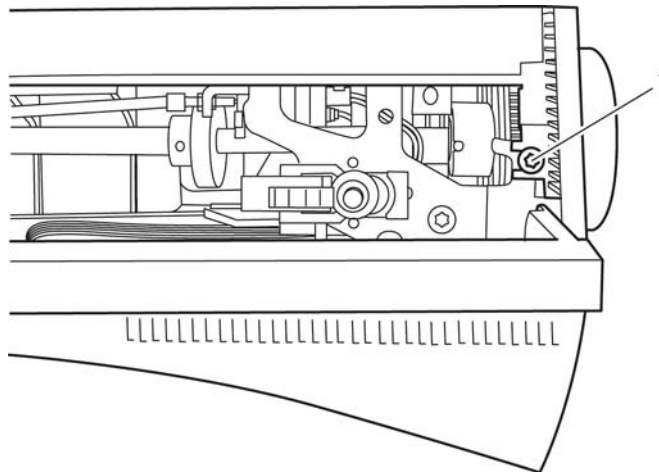

Fig. 1
- Remove (Loosen) fastening screw 1 of the standard cover (fig. 1).